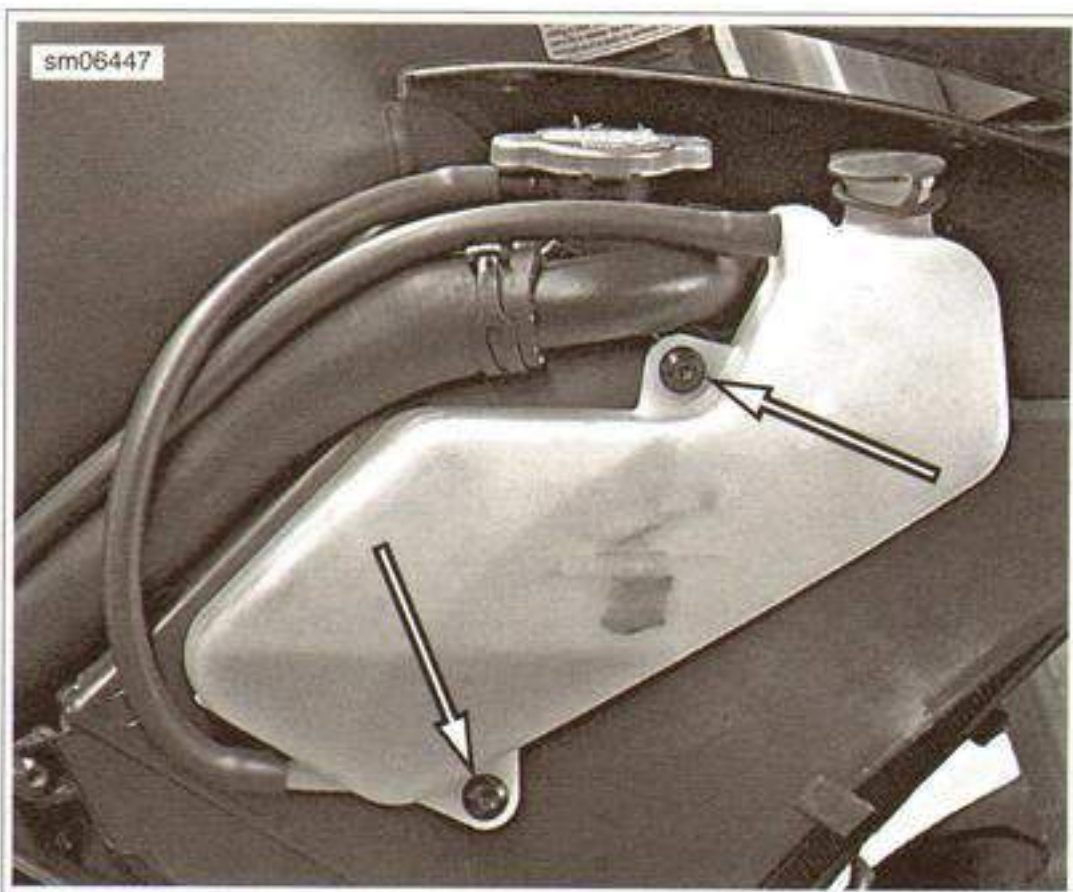

Figure 5-26. Overflow Tank Fasteners
- Check condition of foam (1) on radiator ducts and replace as necessary. If installing new components or foam, be sure to install foam as it was installed on original components.
2. Install fasteners (2) and tighten fasteners to 8.2-9.2 Nm (73-82 in-lbs).
4. See Figure 5-26. If removed, install overflow tank. Tighten to 4.75-6.10 Nm (42-54 in-lbs).